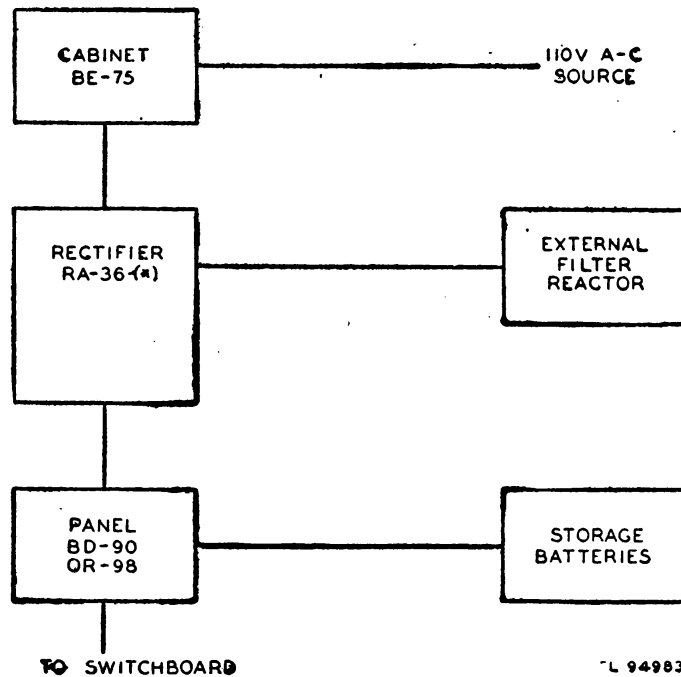

Figure 4. Application of Rectifier RA-36-(*) in Telephone Central Office Sets TC-1, TC-2, TC-5, and TC-10.
a. Rectifier RA-36-(*) is a component part of Telephone Central Office Sets TC-1, TC-2, TC-5, and TC-10. It is used with Cabinet BE-75 and Panel BD-90 or BD-98 to charge the lead-acid type storage batteries in this equipment. (See fig. 4.) For additional information on these telephone central office sets consult the appropriate Technical Manuals listed in appendix II.